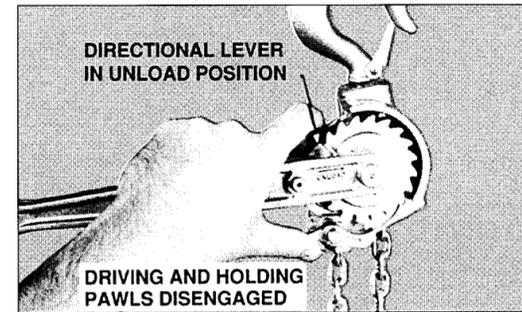

Figure 2. Free Wheeling Position
- Free Wheeling: In this condition the chain can be pulled through the Rigger in either direction by hand. This allows quick and easy attachment of the load. Set directional lever to unload position and release pawls as shown in Figure 2.